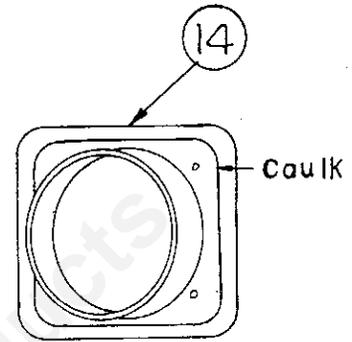

FIG. 6
6. Place a bead of common caulking compound in caulk well on back side of wall plate (14) completely around wall plate (Fig. 6).